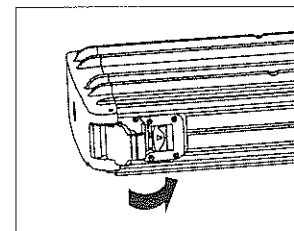

Figure 2
2. To lock the front case, press the latch down until you hear it click. (Figure 2)